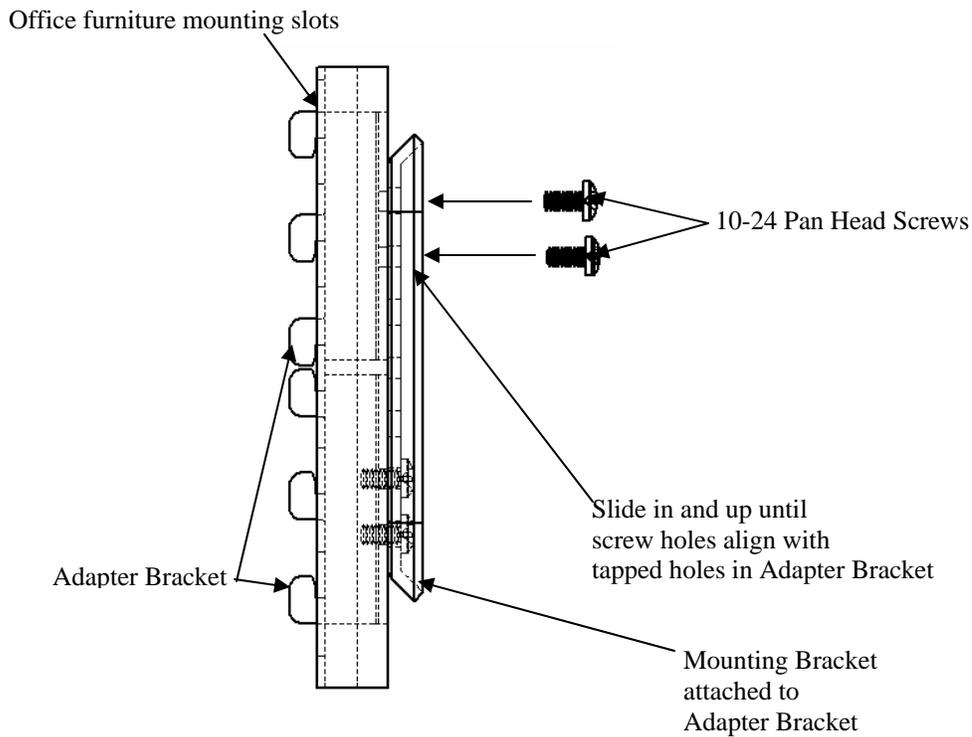

Figure 3
4. Slide the adapter bracket, with the mounting bracket attached, into the office furniture mounting slots just below the adapter bracket installed in Step 1 and secure the mounting bracket to the upper adapter bracket using two 10-24 pan head screws (see Figure 3).